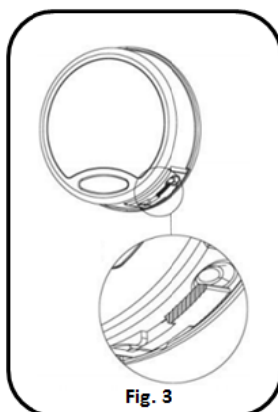

Fig. 3
- Locate the SureLock Battery Compartment at the 5 o'clock position of the EntryPad. See Fig. 3.
- Put the battery compartment back into the EntryPad. Push the latch of the battery compartment up until it snaps closed. See Fig. 3